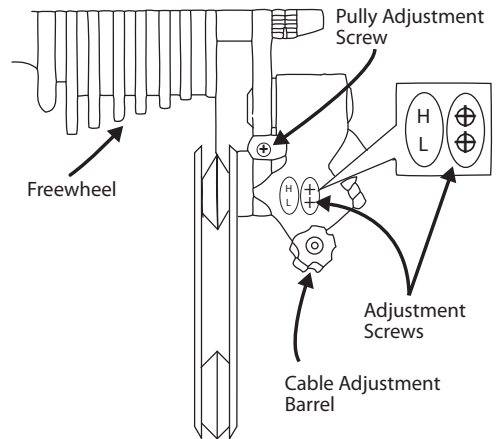

Fig. 53: Rear derailleur parts. View from the rear.
6. Cable tension is adjusted by turning the Cable Adjusting Barrel, which is located at the junction of the cable and the shifter or rear derailleur (Fig. 53). To increase tension, turn the knurled knob counterclockwise, to decrease tension, turn the knob clockwise. Turn until the problem is corrected.